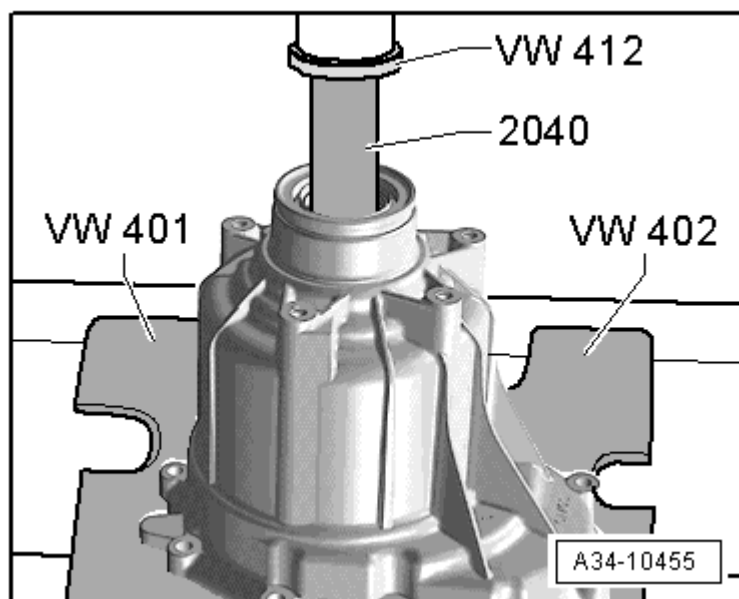

Fig. 50: Removing Flange Shaft Ball Bearing And Spacer Sleeve
- Removing, refer to **Fig. 50**